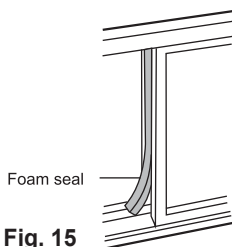

Fig. 15
5. Cut the foam seal to an appropriate length and seal the open gap between the top window sash and outer window sash. See Fig. 15.